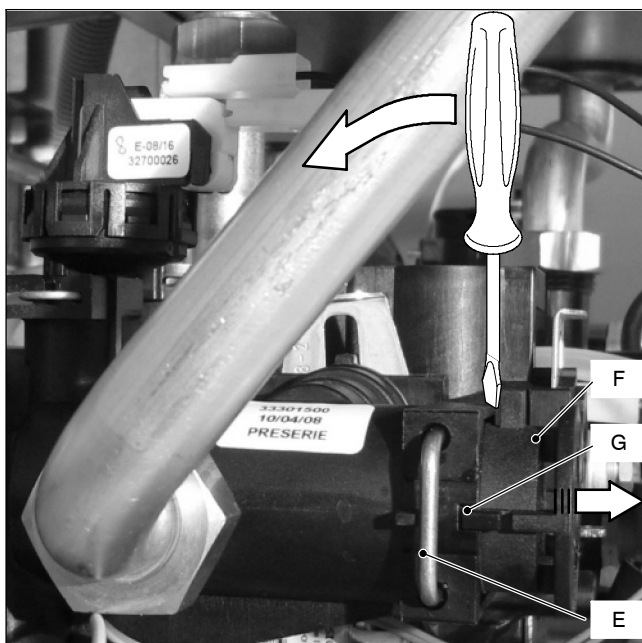

Fig. 5
- 4 Remove the fixing spring *E* (Fig. 5)
- 5 Remove the tree way diverter valve *F* by levering with a screwdriver in as shown in Fig. 5.
Attention. When reassembling the tree way diverter valve be sure that the tree way diverter is correctly oriented by matching the reference *G* with the notch of the water group Fig. 5